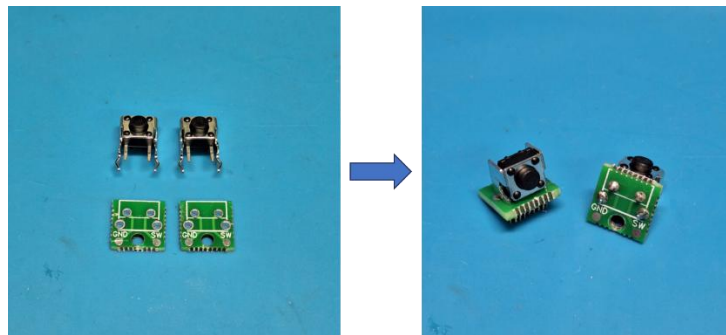

Figure 22: Trigger button PCBs with tactile buttons
4. Solder a tactile button to each of the trigger button PCBs as shown in Figure 22. Ensure that the tactile button is soldered to the correct side of the PCB (opposite side than the silkscreen print).